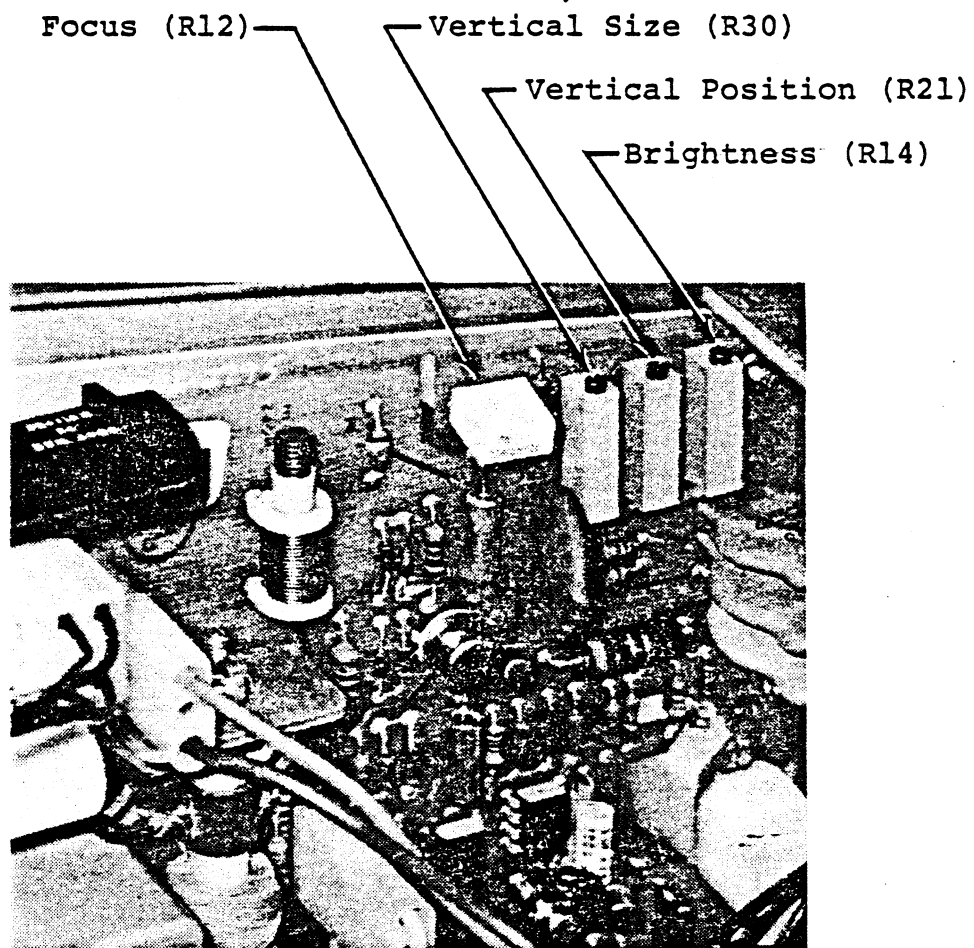

Figure 4-4. Display Adjustment
- c. Adjust the brightness control R14 on the deflection raster scan board (A4) until the retrace line appears at the bottom of the screen, then turn the control back until the retrace line just disappears. See Figure 4-4 for location of controls.